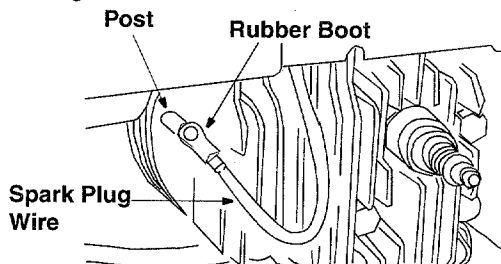

Figure 1
- Before setting up your lawn mower, disconnect the spark plug wire from the spark plug, and ground it against the post on the engine. See Figure 1.
- Attach spark plug wire to spark plug. See Figure 1. Make certain the metal cap on the end of the spark plug wire is fastened securely over the metal tip on the spark plug.